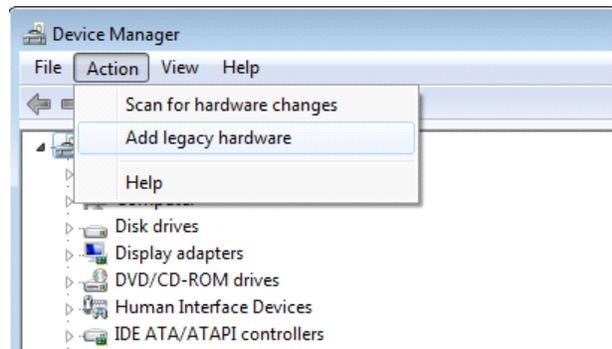

Figure 26. Adding Legacy Hardware
- d. Start the “Add legacy hardware” process from the “Action” menu as shown Figure 26.